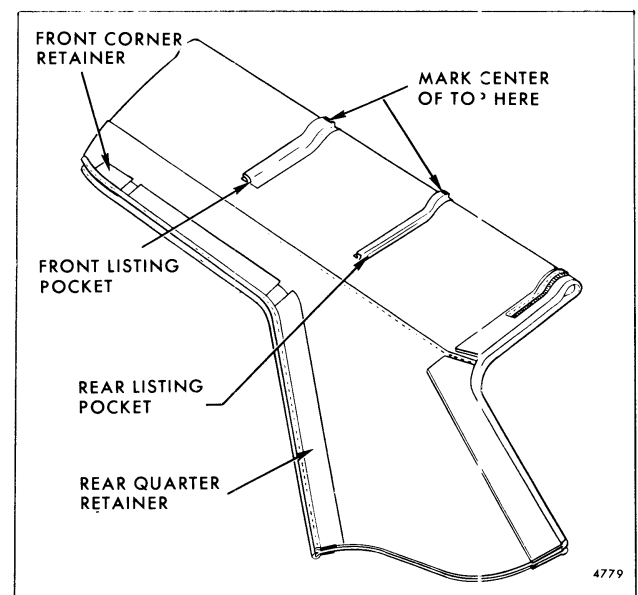

Fig. 8-62-Determining Center of Top Cover
4. Fold replacement top cover assembly in half as shown in Figure 8-62. Determine precise center-
- 3. Fold replacement top cover in half as shown in Figure 8-62. Determine precise centerline of top cover and carefully mark center of top cover on listings for front and center bows.